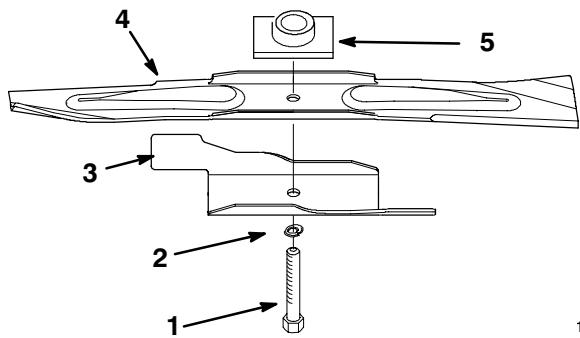

Figure 23
2. Remove the blade bolt, the lock washer, the blade accelerator, and the blade (Fig. 23).
1. Position the blade onto the spindle and the blade driver, with the curved blade tips pointing toward the lawn mower and the blade driver nesting in the recess of the blade (Fig. 23).
2. Install the accelerator, the lock washer, and the blade bolt (Fig. 23).